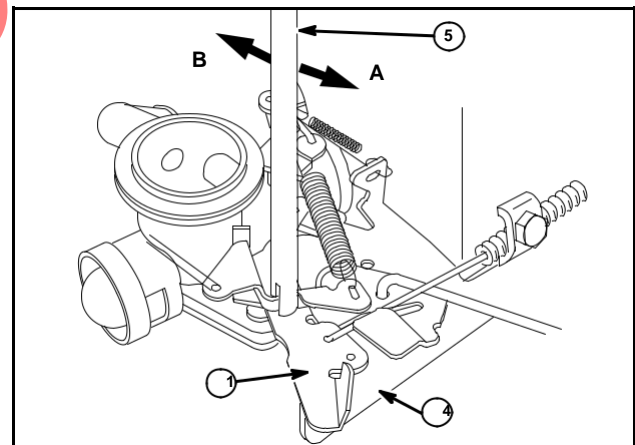

Fig. 7
4. Bend primary governor spring tang, ("A" to increase, "B" to decrease), until engine speed is 200 RPM less than "TOP NO LOAD" RPM, **Dual Spring**, or at "TOP NO LOAD" RPM, **Single Spring**, Fig. 7.